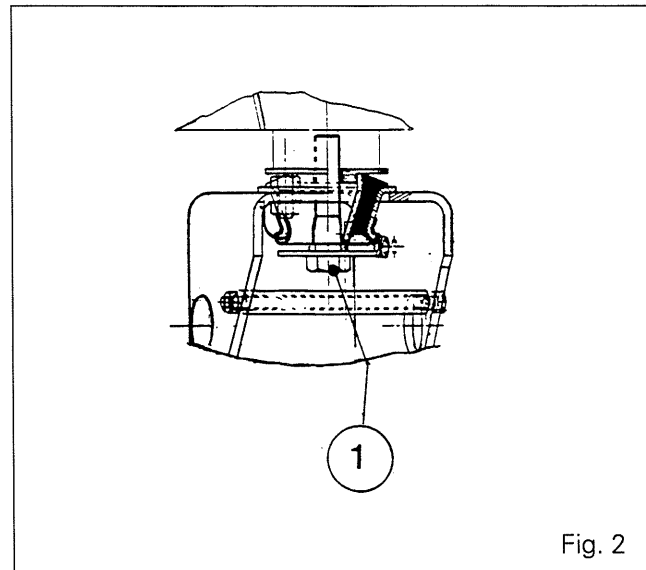

Fig. 2
- \*9. Remove the two bolts **(1)** from the front shock absorbers on the right-hand and left-hand cab supports (Fig. 2). Raise the cab and fit wedges.